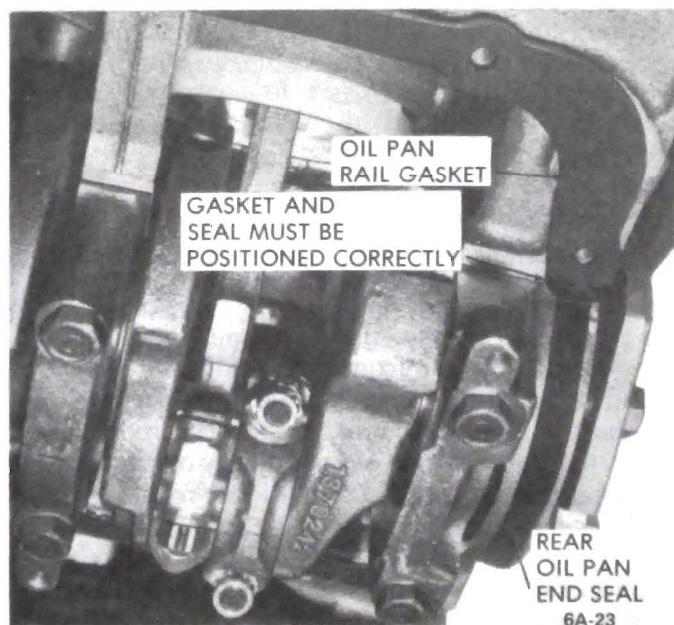

Figure 6A-23 - Oil Pan Gasket and Seal Installation
3. Apply silastic sealer to a few spots on a new pan gasket and install on block. *Make sure seal and gasket are properly fitted.* See Figure 6A-23. (455 cu.in. only).